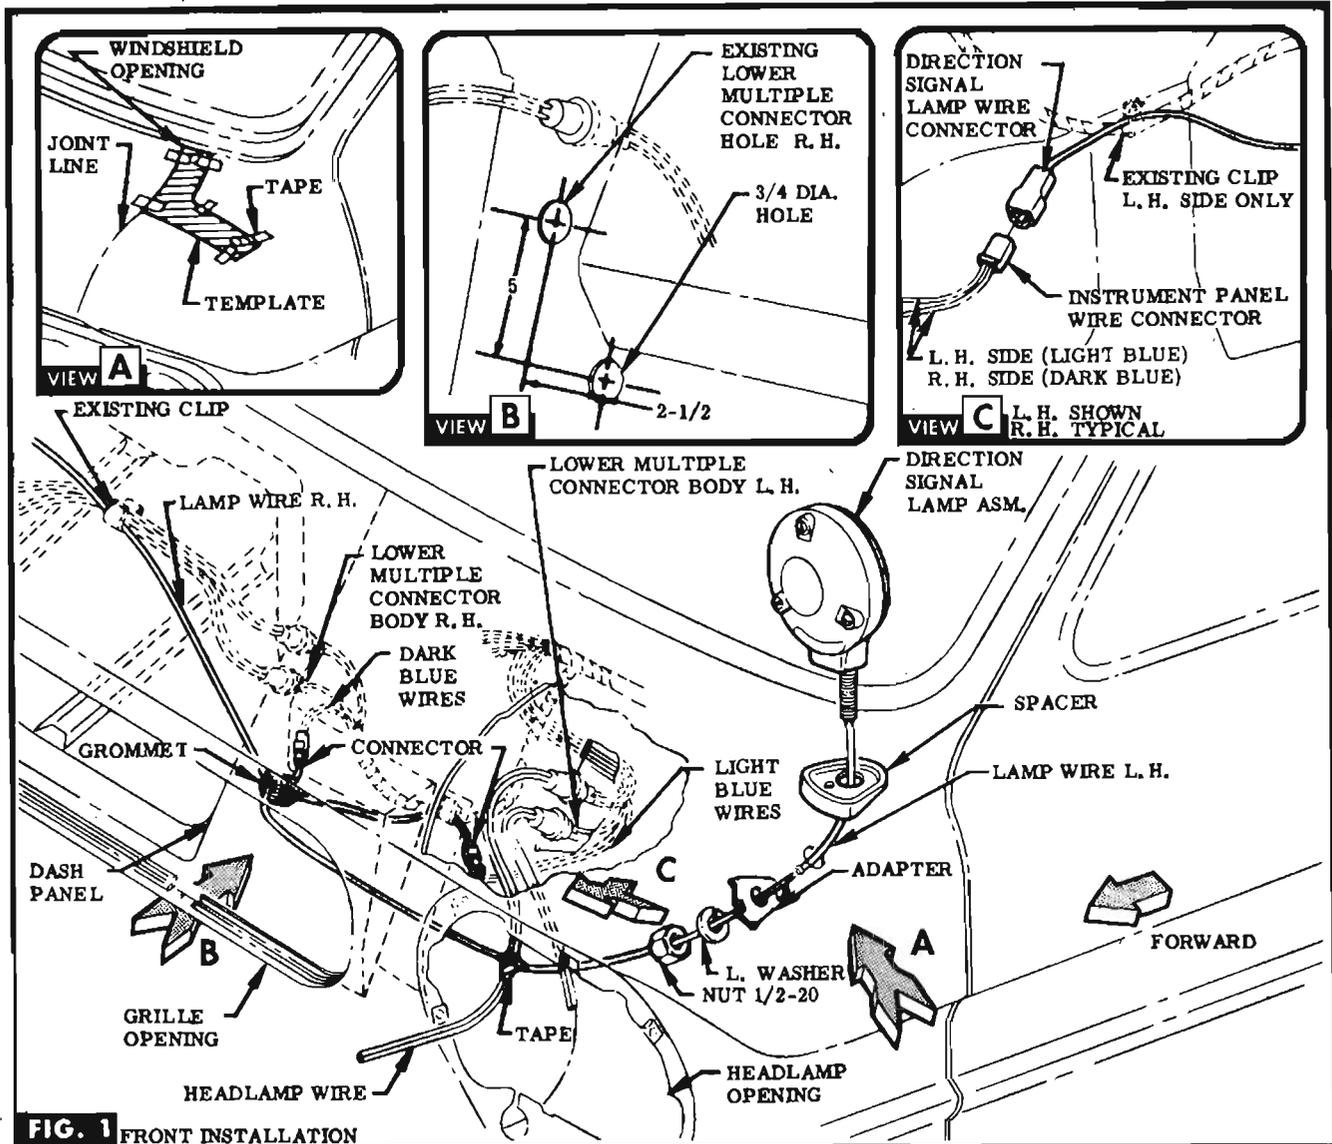
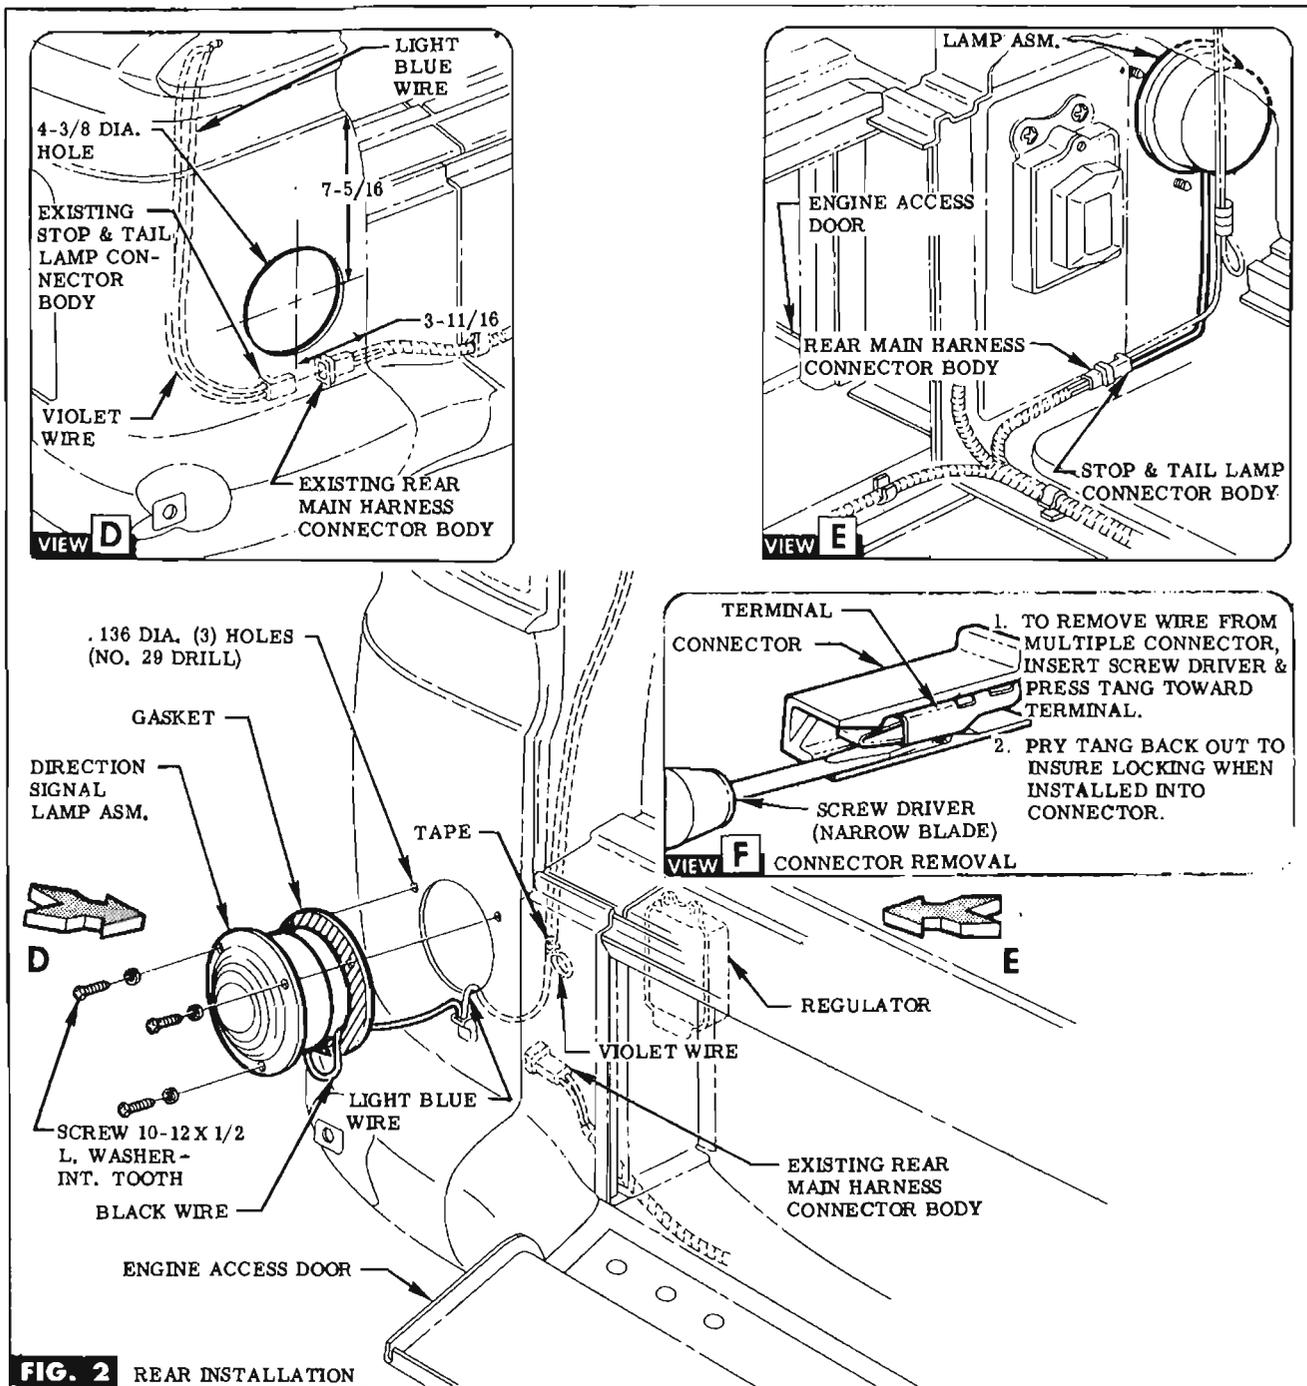

FIG. 1 FRONT INSTALLATION
FIG. 2 REAR INSTALLATION
STEP 5 ROUTE LAMP WIRE & LAMP ASM. THRU SPACER & LARGE HOLE IN FRONT PANEL BOTH SIDES. SEE FIG. 1.
STEP 6 ROUTE LAMP WIRE THRU ADAPTER, ATTACHING PARTS & GROMMET PROVIDED. TIGHTEN FRONT LAMPS SECURELY BOTH SIDES. SEE FIG. 1.
WIRE & PLACE GROMMET IN HOLE PREVIOUSLY DRILLED. USE BODY SEALER TO SEAL WATERTIGHT. SEE FIG. 1.
STEP 8 (R. H. INSIDE OF VEHICLE) DISCONNECT LOWER CONNECTOR BODY, REMOVE DARK BLUE WIRE TERMINAL & RECONNECT CONNECTOR BODY. SEE FIG. 1. **NOTE** For Terminal removal, see View "F", Fig. 2.
STEP 9 (L. H. INSIDE OF VEHICLE) DISCONNECT LOWER CONNECTOR BODY, REMOVE LIGHT BLUE WIRE TERMINAL & RECONNECT CONNECTOR BODY. SEE FIG. 1. **NOTE** For Terminal removal, see View "F", Fig. 2.
STEP 10 PLACE PROVIDED CONNECTORS ON BOTH LIGHT & DARK BLUE WIRES, & CONNECT DARK BLUE TO R. H. LAMP & LIGHT BLUE TO L. H. LAMP, PLACE L. H. WIRE IN EXISTING CLIP. SEE VIEW "C", FIG. 1.
STEP 11 TAPE L. H. WIRE TO EXISTING HEADLAMP WIRE & PLACE R. H. WIRE IN EXISTING CLIP. SEE FIG. 1.
STEP 15 REMOVE TERMINAL END OF STOP LAMP WIRE (VIOLET) FROM LOWER HOLE IN CONNECTOR BODY, LOOP & TAPE WIRE TO TAIL LAMP WIRE (LIGHT BLUE). SEE FIG. 2 & VIEW "F".
STEP 16 INSERT TERMINAL END OF DIRECTION SIGNAL LAMP WIRE (BLACK) THRU GASKET & INTO LOWER HOLE IN CONNECTOR BODY. SEE FIG. 2.
STEP 17 PLACE CONNECTOR BODY, WIRES, & DIRECTION SIGNAL LAMP BACK THRU DRILLED HOLE, SEE FIG. 2.
STEP 18 USE LAMP AS TEMPLATE, DRILL HOLES & ATTACH LAMP WITH PARTS PROVIDED. SEE FIG. 2.